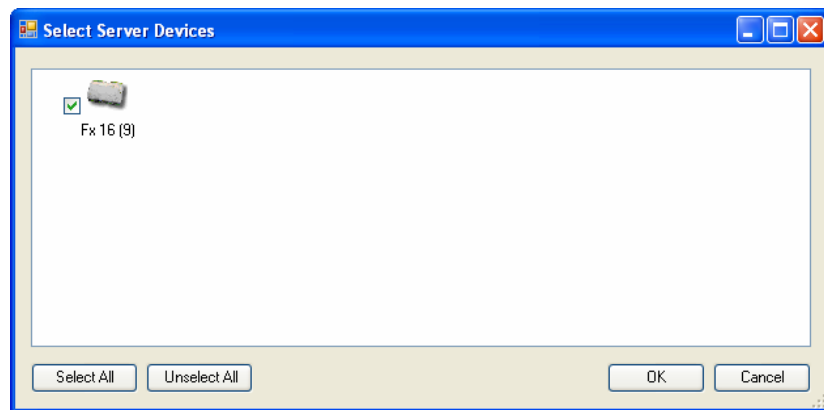
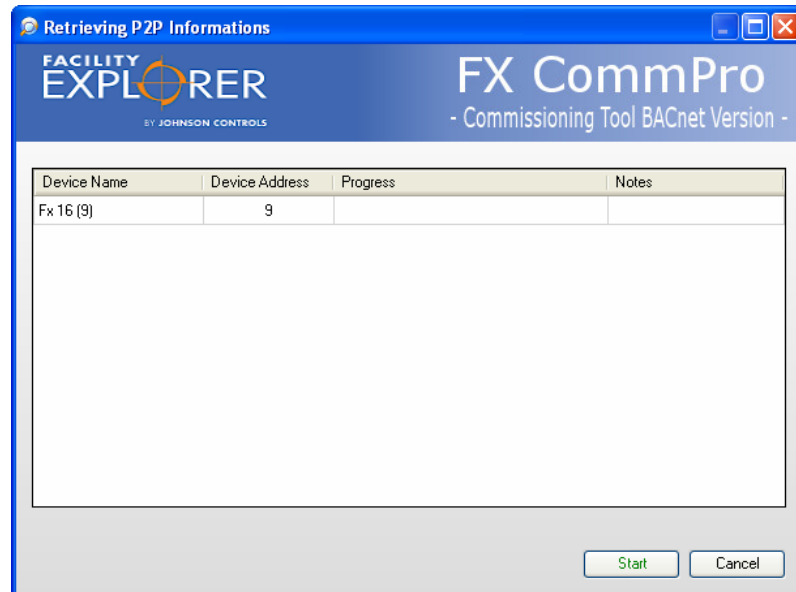

Figure 48: Select Server Devices Window
Figure 49: Retrieving P2P Information Window
3. Check the box next to the desired servers, or click Select All or Unselect All (Figure 48). Click OK. The Retrieving P2P Information window appears (Figure 49).